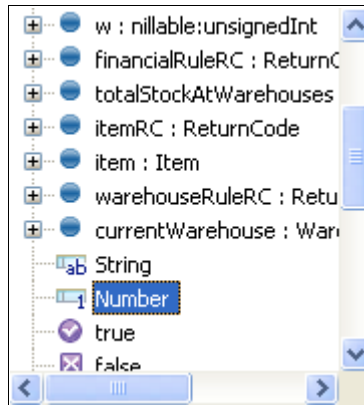

Figure 3-201 Select Number from context menu
c. From the same context menu, select **Number** as shown in Figure 3-201.